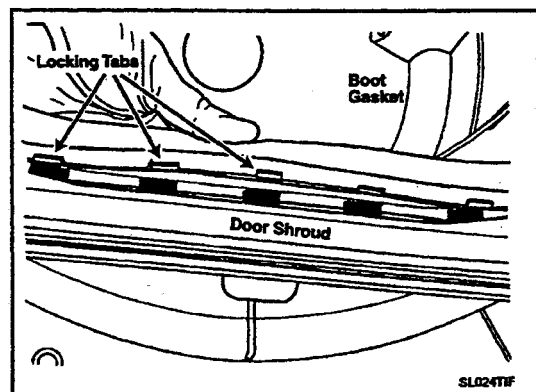

Figure 2-37
- Unsnap the locking tabs of the door boot around the inside perimeter of the door shroud (*Figure 2-37*).